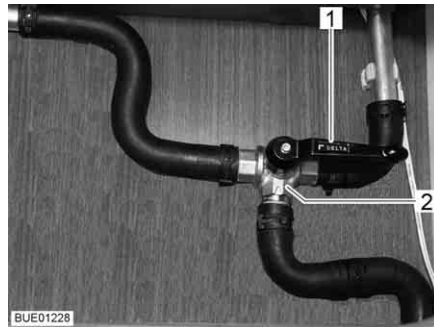

Fig. 164 3-way valve
- Set the lever (Fig. 164,1) of the 3-way valve (Fig. 164,2) parallel to the straight flow direction (Fig. 164).
- Set the lever (Fig. 164,1) of the 3-way valve (Fig. 164,2) transverse to the straight flow direction.